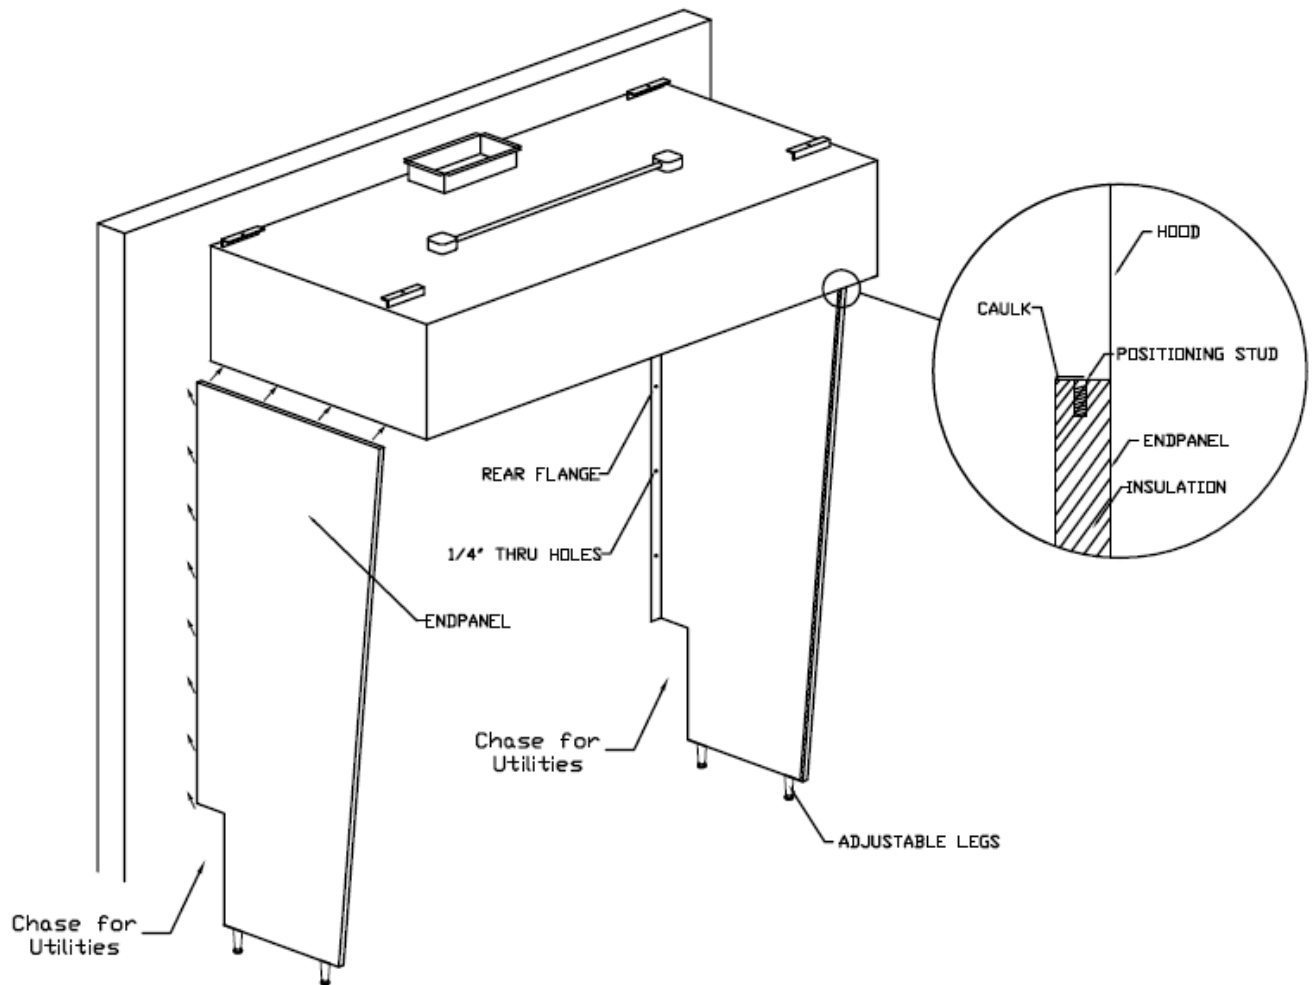

Figure 20
1. Refer to Figure 20.
3. Position the end panel with the top located flush against the bottom of the hood end and the rear flange located flush against the rear wall and facing toward the interior of the hood. Studs on bottom of hood ends should align with slots on top of vertical end panel. Refer to Figure 20.
2. Slide the top flange behind the lower rear edge of the hood. Secure the bottom flange to the wall using stainless steel sheet metal screws. **See Figure 20.**